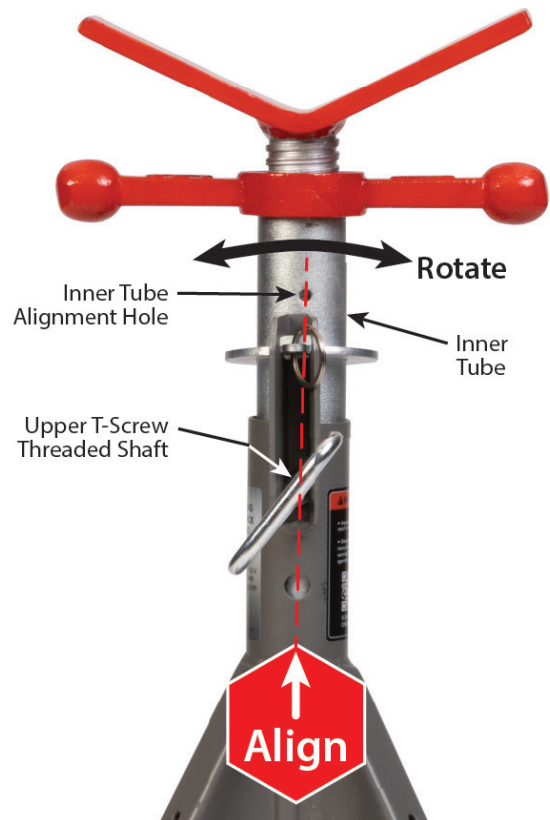

Figure 4-3: Align Inner Tube Alignment Hole
3. Rotate the inner tube to make sure the inner tube alignment hole is vertically aligned with the upper T-screw threaded shaft. This is your guide to ensure the inner tube transport hole aligns with the upper T-screw (see Figure 4-3).
2. Grasp the inner tube and slightly lift up to release the lock ring. Lift the lock ring so it will not engage with the inner tube and fully lower the inner tube. NOTE: As you lower the inner tube, make sure the inner tube alignment hole is vertically aligned with the upper T-screw shaft. This is your guide to ensure the inner tube transport hole aligns with the upper T-screw. See Figure 4-3 in *Section 5 Assembly*.